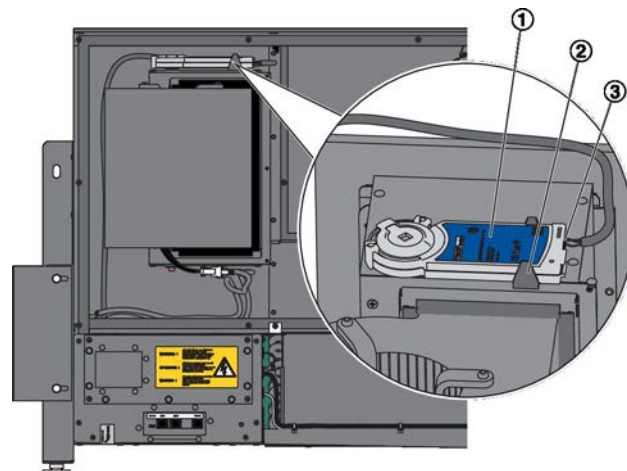

Fig. 30: Replacing an actuator
3. ▶ Remove the plug of the connecting cable (Fig. 30/3) from the actuator (Fig. 30/1).
4. ▶ Release the actuator from the retaining bracket (Fig. 30/2) by pulling it up from the top, then replace it with a new actuator.